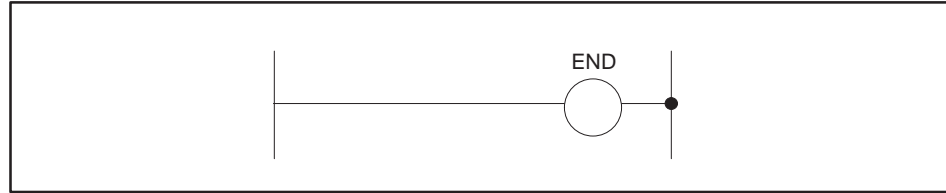

Figure 6-22 END Format
**END Description** The END instruction (Figure 6-22) unconditionally terminates the scan.